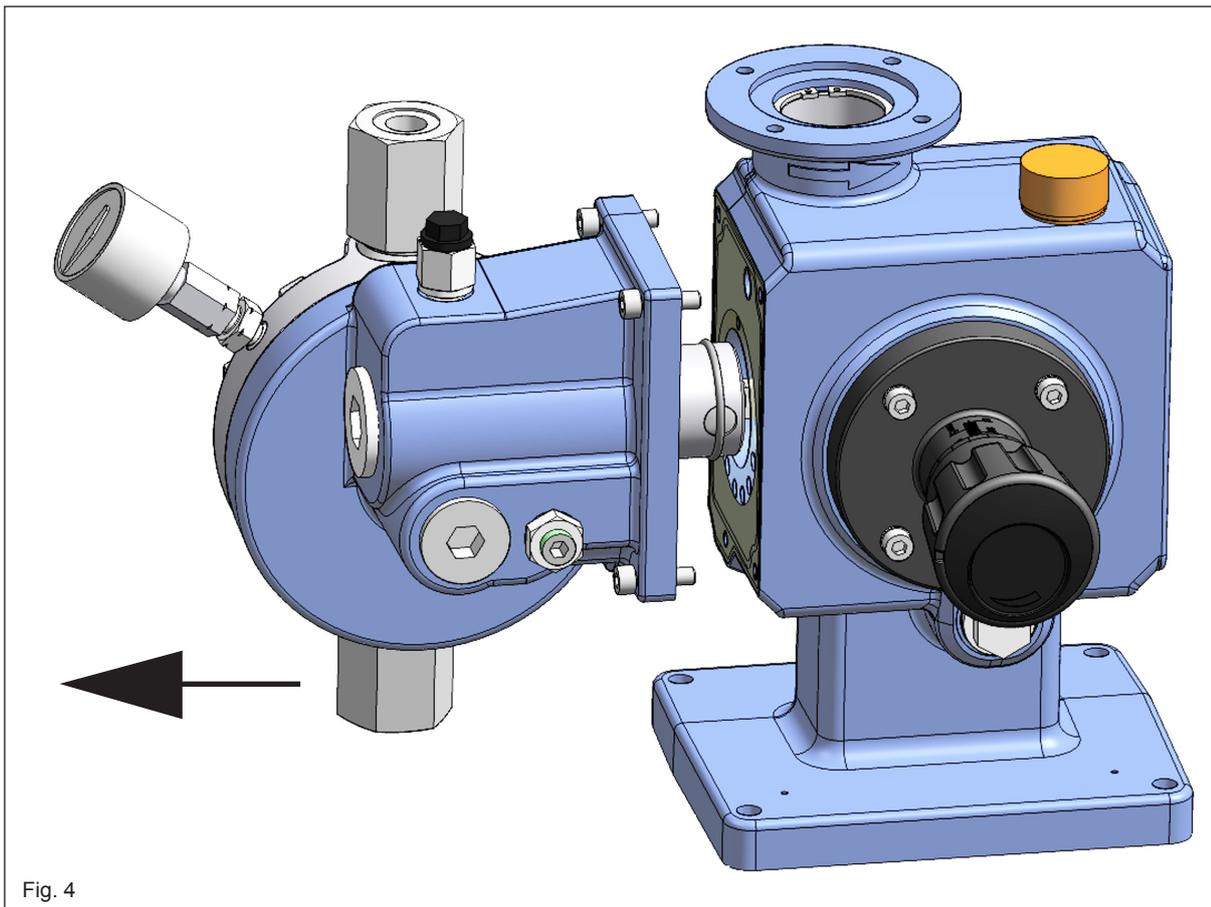

Fig. 4
5. Loosen the fixing screws (Allen screws (30)) and pull off the diaphragm pump head without tilting (see fig. 4).
**To avoid damage to the plunger (502) during dismantling plunger (502) must be supported from below when pulling the diaphragm pump head off!**
6. Remove circlip (555) using an appropriate set of pliers.
**Do not damage the sealing surface of plunger (502)!**